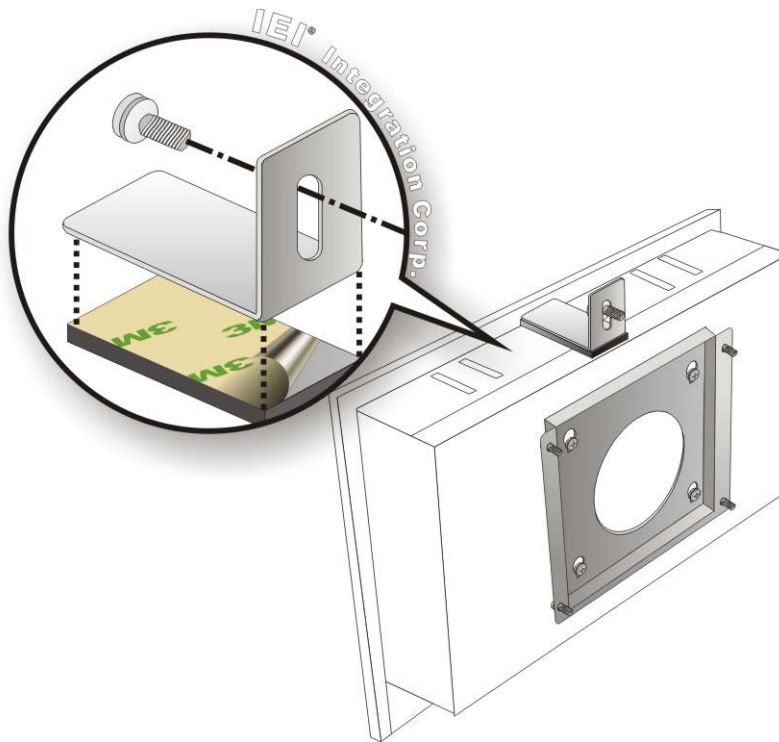

Figure 3-21: Secure the Chassis
Step 9: Secure the panel PC with the wall-mounting kit. To do this, stick the protective cushion to the wall-mounting kit first. Then, put the wall-mounting kit on the top panel of the panel PC. Carefully mark the location of the wall-mounting kit screw holes on the wall. Drill a pilot hole at the marked location on the wall. Secure the wall-mounting kit to the wall by inserting a retention screw into the pilot hole on the wall (**Figure 3-21**). This step is to avoid the panel PC being pushed apart from the wall-mounting bracket accidentally.